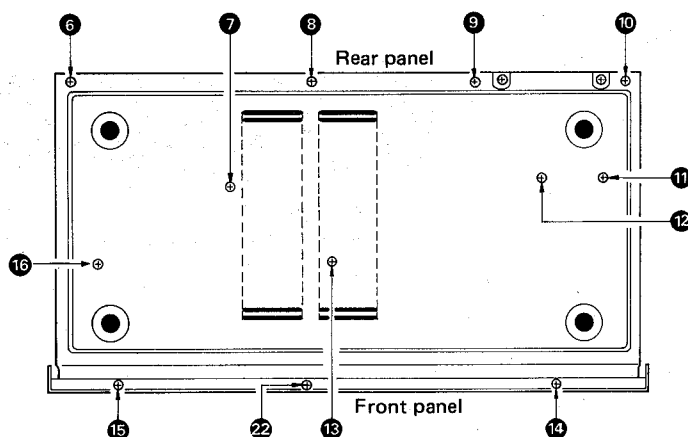

Fig. 4
1. Remove the 11 setscrews (Fig. 4 : ⑥ ~ ⑮) of the bottom board.
8. Remove the 3 setscrews (Fig. 4 : 14 , 15 , 22) which secure the front panel from the bottom.